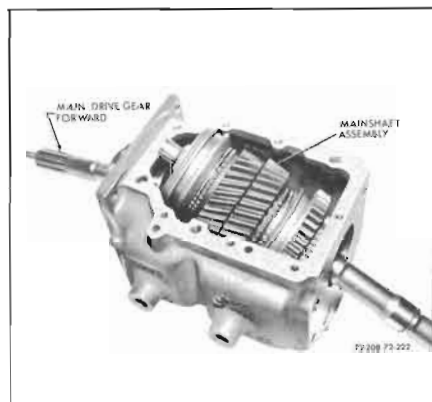

Figure 72-222—Installing Mainshaft
6. Position mainshaft assembly in case. See Figure 72-222.